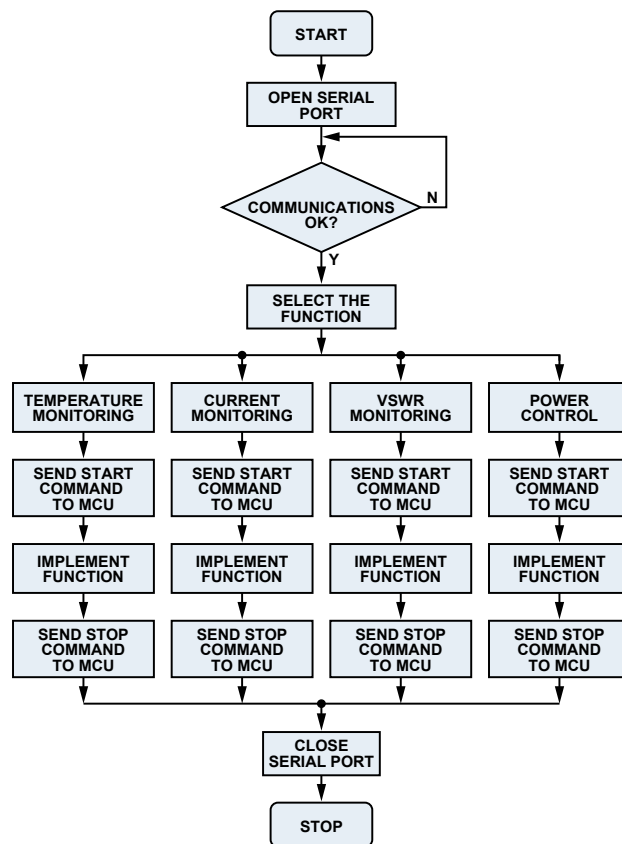

Figure 8. Flow chart for controlling the UI.
The user interface (UI) displays the detected data and responds to commands from the operator. Figure 8 shows the flow chart for the UI. The serial port should be opened and communication links should be started after the UI is running. A different module can then be selected for detection and control.